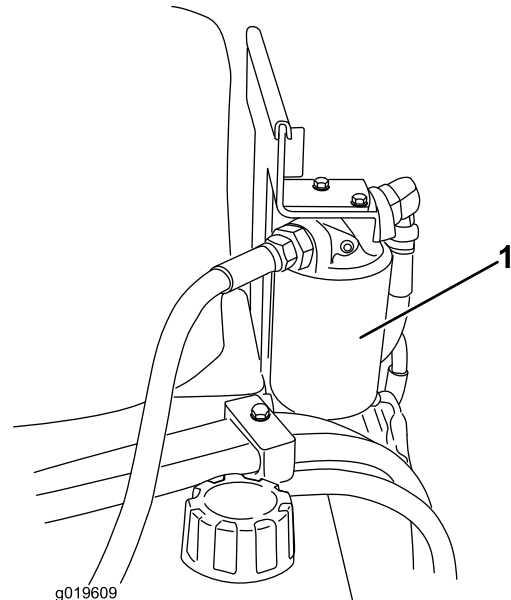

Figure 32
3. Place a drain pan under the filter (Figure 32).
4. Remove the old filter (Figure 32) and wipe the surface of the filter adapter gasket clean.
6. Install the replacement hydraulic filter onto the filter adapter (Figure 32). Tighten it clockwise until the rubber gasket contacts the filter adapter, then tighten the filter an additional 3/4 turn.